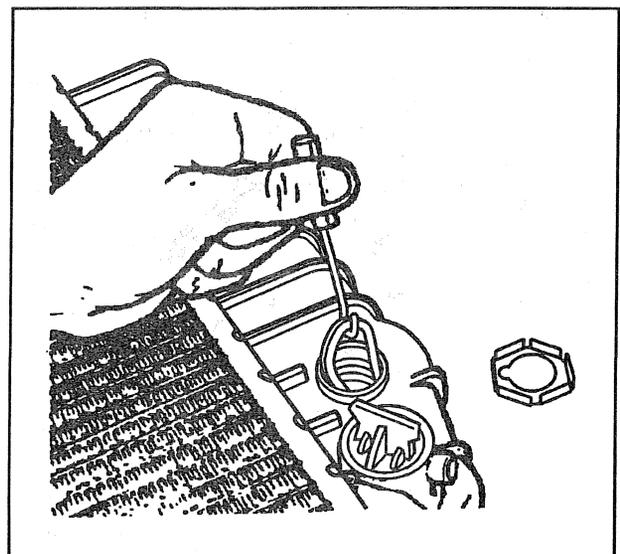

Figure 27—Removing the Oil Cooler Gasket
Remove or Disconnect (Figure 27)
3. Press the oil cooler into the hole and remove the gasket using a small hook (figure 27).
Install or Connect (Figure 27)